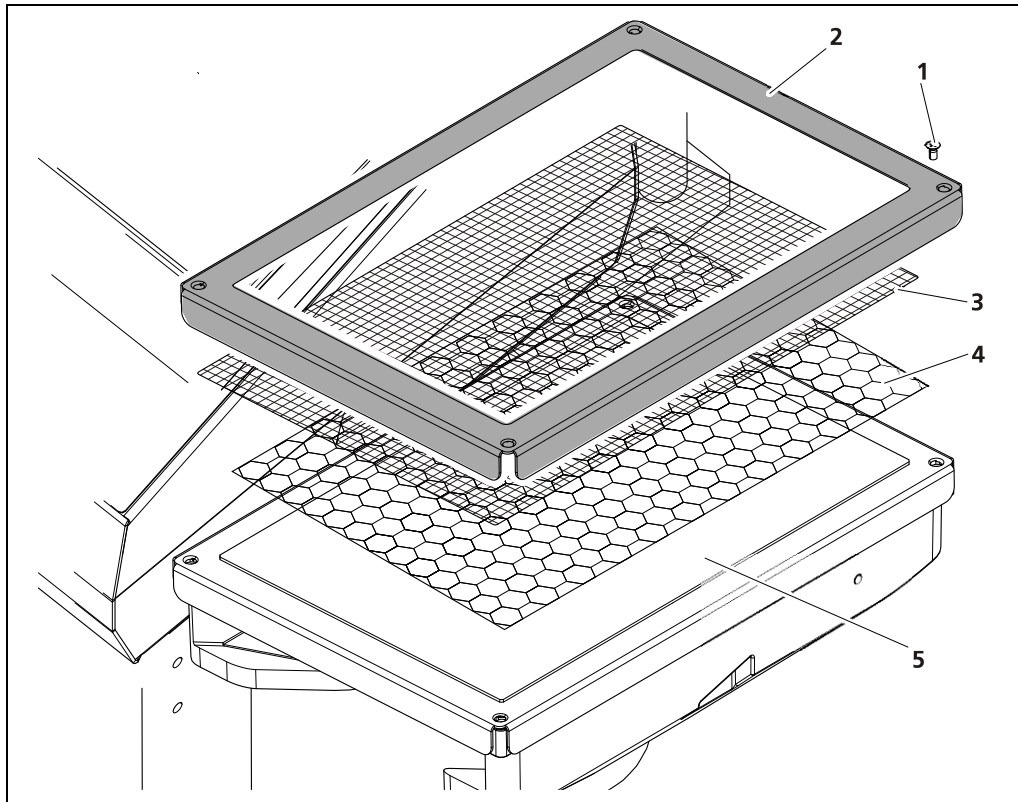

Fig. 44 Cleaning the hand detectors
1. Open the 4 Phillips head screws (Fig. 44, item 1) and remove the frame (Fig. 44, item 2).
2. Remove the grid foil (Fig. 44, item 3) carefully.
5. Remove the honeycomb grid (Fig. 44, item 2) carefully.
6. Remove the dirt from the protective foil using mild air pressure (Fig. 44, item 5).
7. Insert the honeycomb grid (Fig. 44, item 3) carefully.
8. Insert the cleaned grid foil (Fig. 44, item 2) and attach the frame.